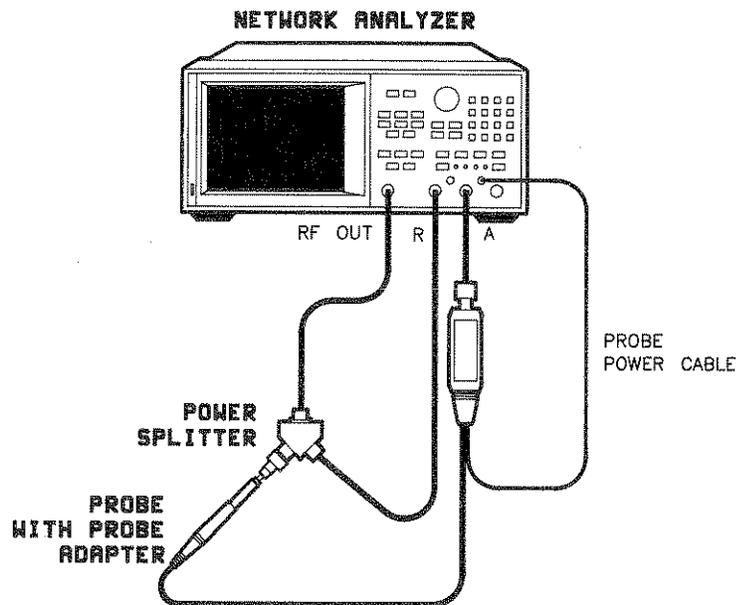

Figure 3. Operator's Check using a Network Analyzer
Figures 3 and 4 illustrate two test setups for the operator's check procedure, one is for use with a network analyzer, the other for use with spectrum analyzer. Follow the desired procedure to check the probe. This test is only intended to ensure that the probe is *functioning*. If the probe fails the test, it must be repaired. Refer to the Service Section.
1. Connect the equipment as shown in Figure 3. A test set should not be connected to the analyzer.